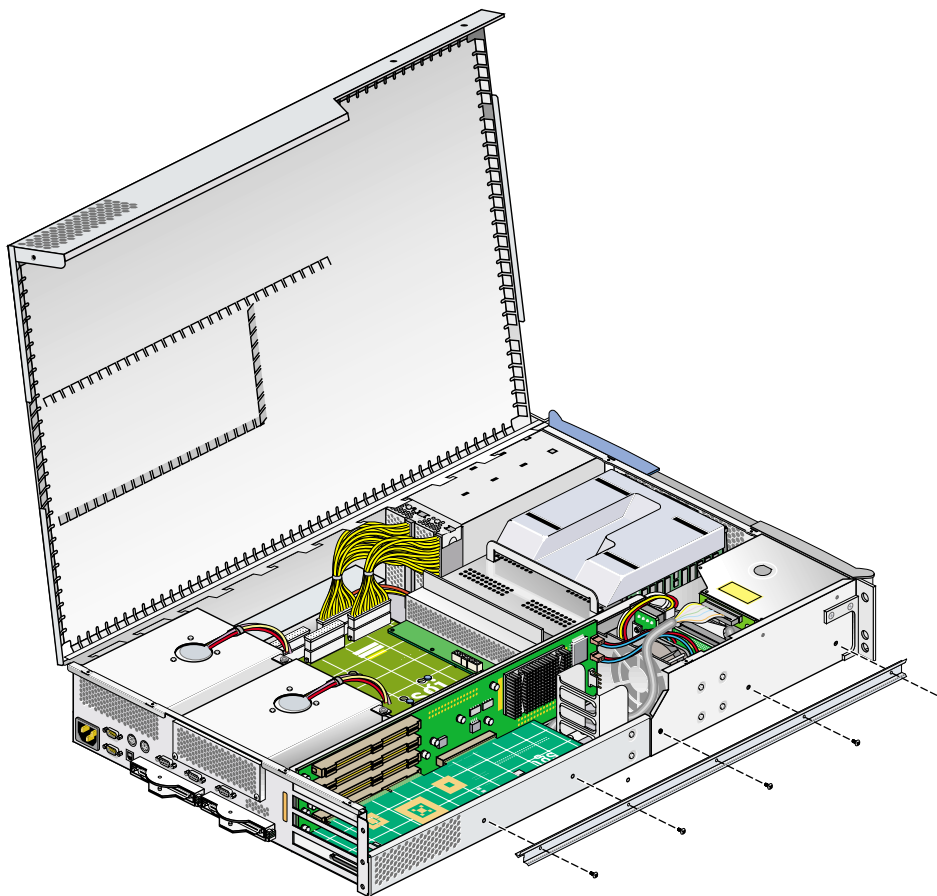

Figure 6-3 Removing the Chassis Rail
7. If you are installing a card in one of the two bottom-most card slots, you must also remove the chassis rail by unscrewing the five Phillips screws, as shown in Figure 6-3. (If you are not installing a card into one of the bottom-most card slots, proceed to step 9.)